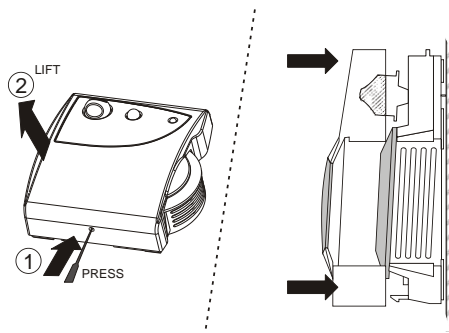

Fig. 1. Cover disassembly / assembly
The CLCM1T,2T,4T,5T,6T come packed with a sub-base that mounts separately for ease of installation; to disassemble the cover and the sub-base, see Fig. 1.
1. Disassemble the cover as shown in Fig. 1.
8. Remount the cover as depicted in Fig. 1 and make sure that the tab on the underside engages.